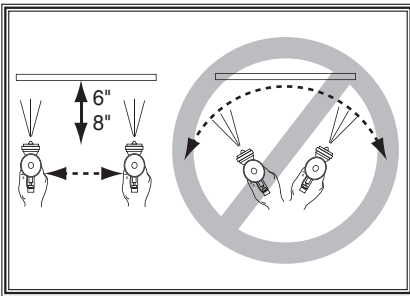

Figure 5. Spray technique.
9. Keep the gun tip perpendicular, parallel, and 6-8" from the work (as shown in **Figure 5**) when spraying. Do not allow your wrist to bend. This will cause the gun to arc across the surface and distribute the material unevenly, possibly creating sags and dry spots.